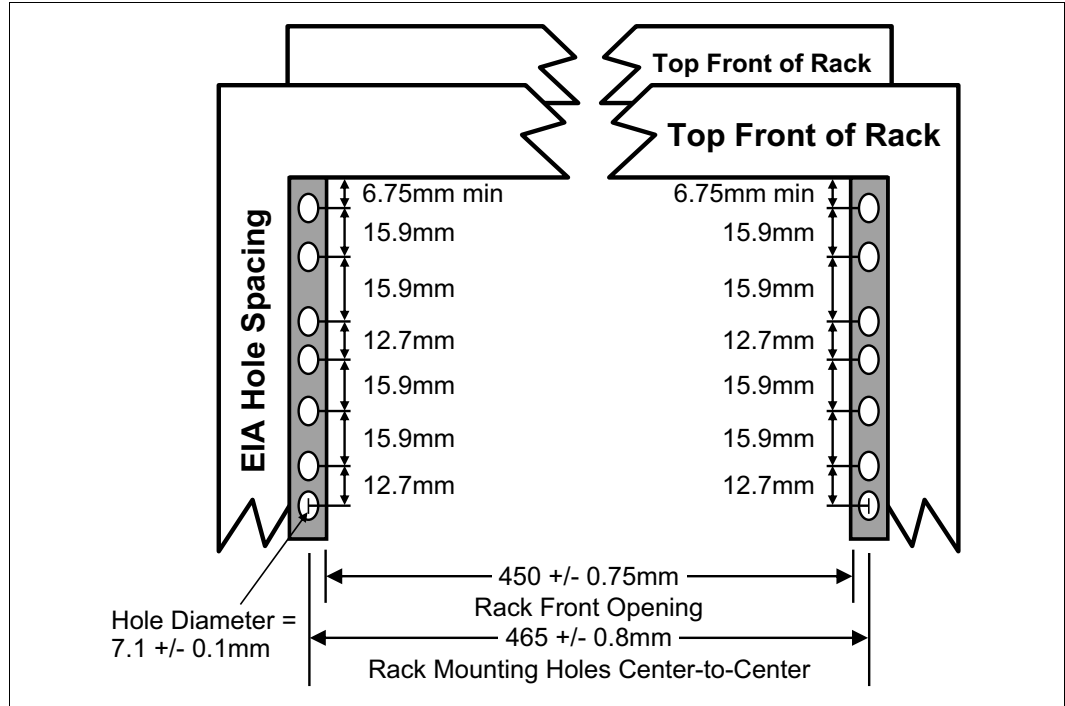

Figure 1-15 Rack specification dimensions, top front view
- The vertical distance between the mounting holes must consist of sets of three holes spaced (from bottom to top) 15.9 mm (0.625 in.), 15.9 mm (0.625 in.), and 12.67 mm (0.5 in.) on-center, making each three-hole set of vertical hole spacing 44.45 mm (1.75 in.) apart on center. Rail-mounting holes must be 7.1 mm  $\pm$  0.1 mm (0.28 in.  $\pm$  0.004 in.) in diameter. Figure 1-15 shows the top front specification dimensions.